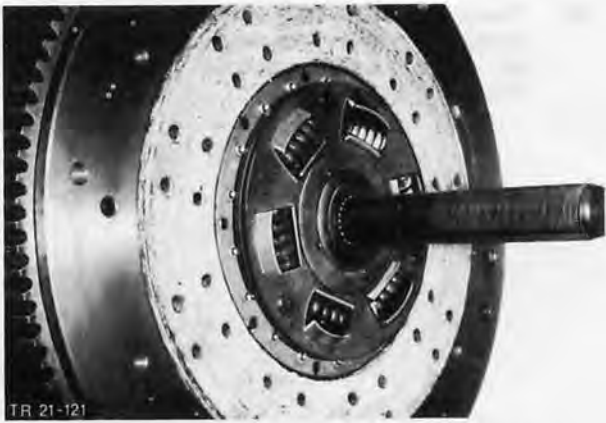

Fig. 89. Centralise clutch disc using Special Tool 21-044
67. Fit clutch pressure plate and centralise clutch disc, using Special Tool 21-044, Fig. 89 and torque bolts as specified in Technical Data.